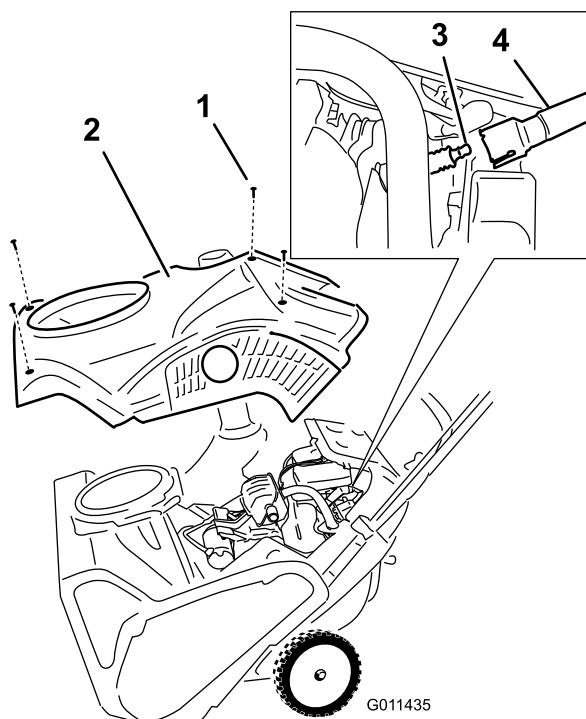

Figure 34
4. Remove the 4 screws that secure the shroud (Figure 34).
1. Screw (4)
6. Remove the shroud (Figure 34).